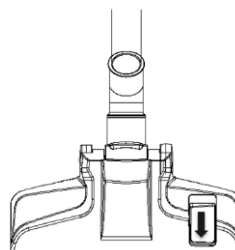

Fig.13
4. As in fig.13 , tread on the pedal of the brush tool again to put the bristles in, and you can clean the carpet.